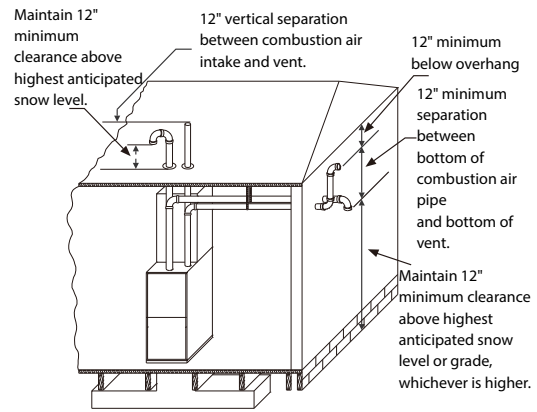
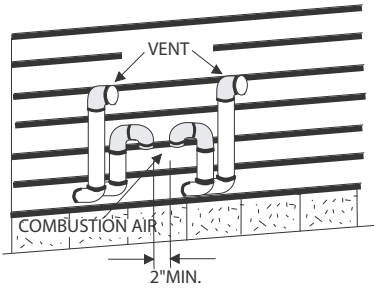

Fig 7-4 Termination Configuration - 2 Pipe
Fig 7-6 Double Horizontal Combustion Air Intake and Vent Termination
7. Direct vent systems must be installed so the vent and the combustion air pipes terminate in the same atmospheric zone. Refer to Figures 7-4 or 7-5.
The combustion air side of the two-pipe configuration shown in Figure 7-4 can be installed so the combustion air pipe terminates as described in outdoor combustion air or ventilated combustion air sections in these instructions. Follow the instructions for outdoor combustion air or ventilated combustion air and the instructions for installing the vent system with the vent terminating as shown in Figures 7-6 or 7-7. The two-pipe system must have a separate combustion air pipe and a separate vent pipe for each furnace.
1. OUTDOOR COMBUSTION AIR: This is a direct vent configuration where the combustion air is supplied through a PVC or ABS pipe that is connected to the PVC coupling attached to the furnace and is terminated in the same atmospheric zone as the vent. This type of installation is approved on all models. Refer to Figure 7-6.
2. AMBIENT COMBUSTION AIR: Combustion air is supplied from the area surrounding the furnace through openings in the furnace casing. The combustion air and the vent pipes are not terminated in the same atmospheric zone. Refer to Figure 7-4 for vent terminations. Refer to "Ambient Combustion Air Supply" for proper installation. Refer to Fig 7-6.